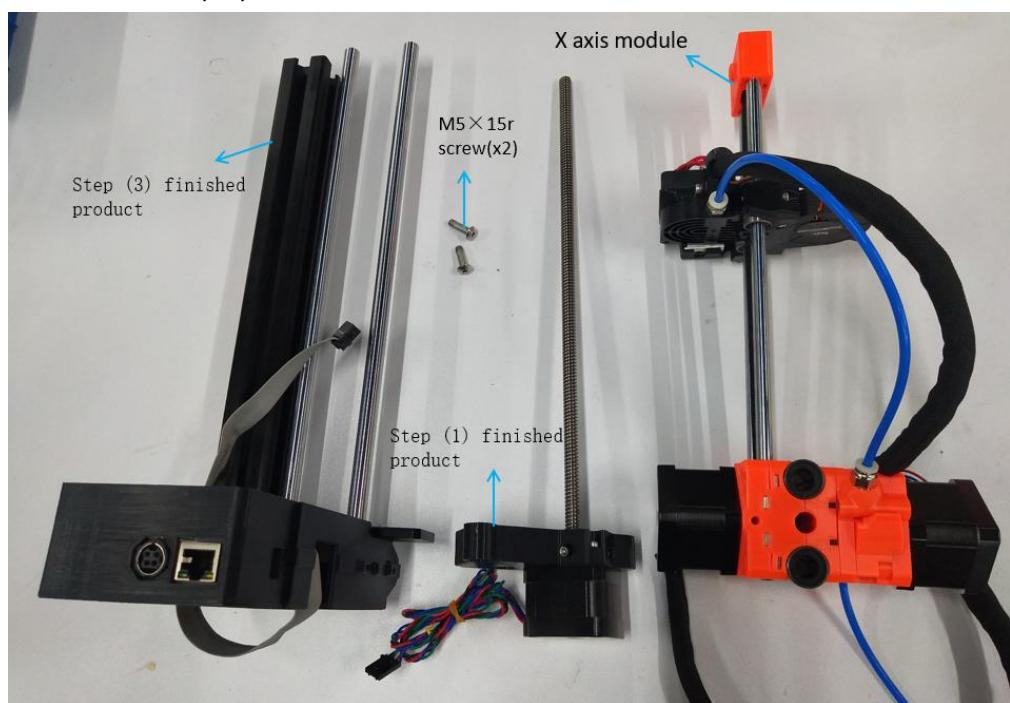

Figure 4.1.1
**Step 4-1-1:** As shown in Figure 4.1.1, prepare the materials and check whether the quantity of materials is correct, and prepare for the next installation.